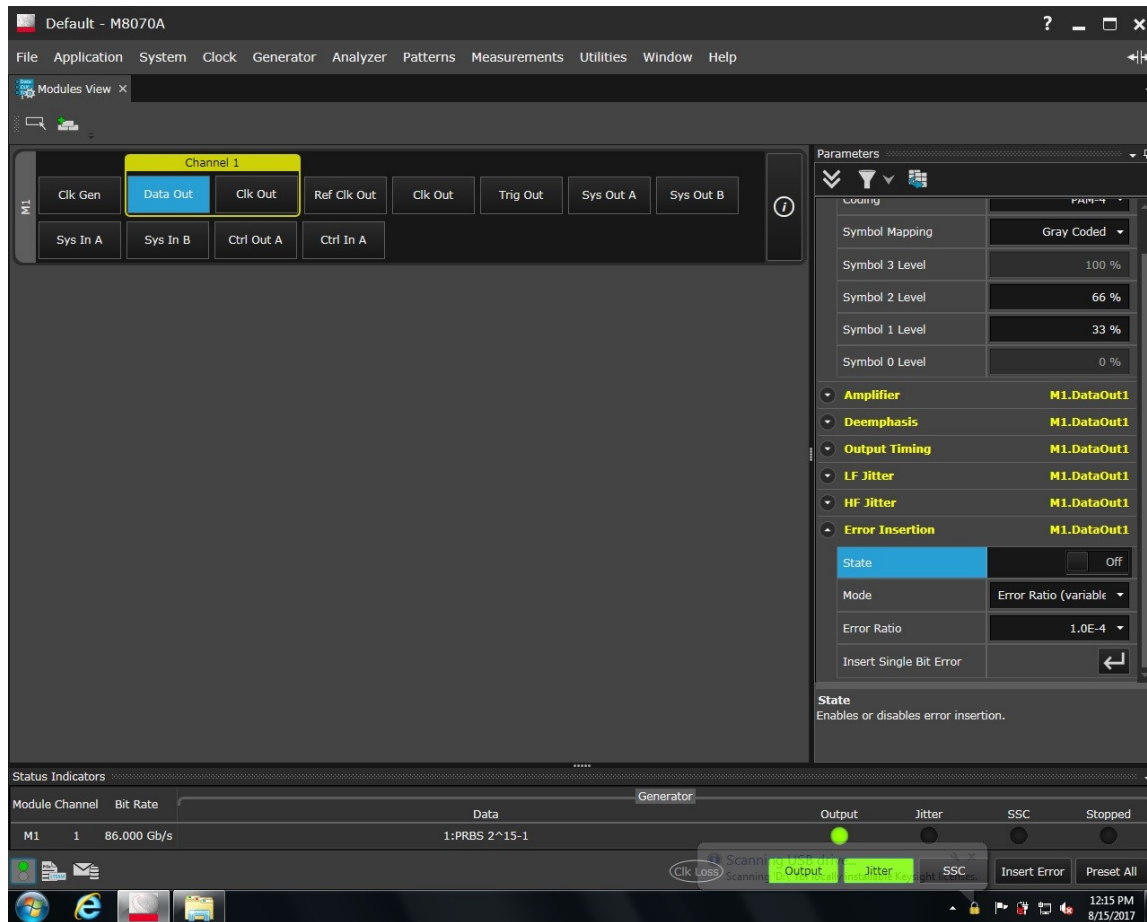

Figure 8. Error insertion window in M8070B software for PG module
To ensure sure that the BER is being measured correctly, it can be cross-checked by using the error insertion capability, available in the M8045A (PG). Figure 8 shows the error insertion window in the M8070B software interface for the M8045A PG module.
Under the Error Insertion parameters of the M8045A PG, mode of error insertion can be selected. When selecting an error ratio mode with a value of 1E-4 and turning on the error insertion, the acquisition BER (BER at the bottom right corner of the M8070B screen) as shown in the figure 8, also shows a BER in the order of 1E-4, indicating that it is encountering errors. By turning the error insertion off, the BER shifts back to 0 again, confirming that it follows the error insertion. This shows that the M8070B software detects errors accurately and can reliably be used for BER measurement. This error insertion approach can be used for PAM4 and NRZ line coding.